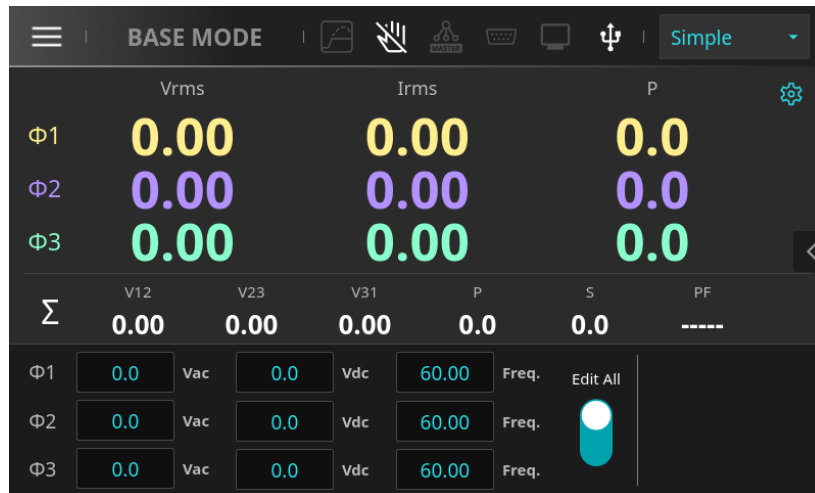

Figure 6-18 Main System Screen (Touch Lock Enabled State)
2. Tap the Stop Touch icon **Activate** to enable the touchscreen lock function, as shown in Figure 6-18.